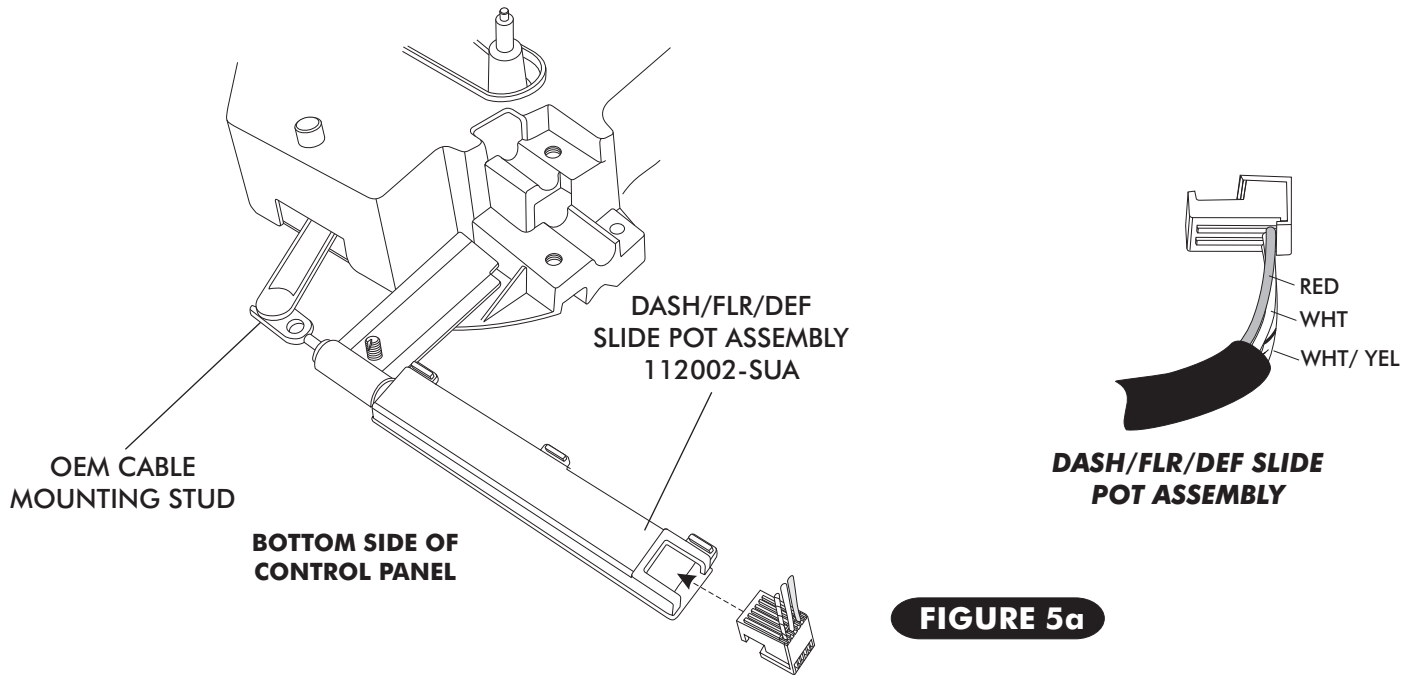

FIGURE 5a
- LOCATE THE CONTROL PANEL WIRE HARNESS AND PLUG THE CORRESPONDING WIRES INTO THE CORRECT SLIDE POT ASSEMBLY AS SHOWN IN FIGURE 5a BELOW.